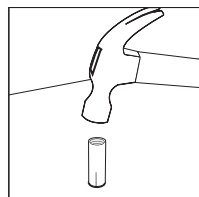

Figure 8
7. Insert the supplied expanding Drop-in Anchor into the hole and tap into place using a hammer until even with the floor surface (Figure 8).